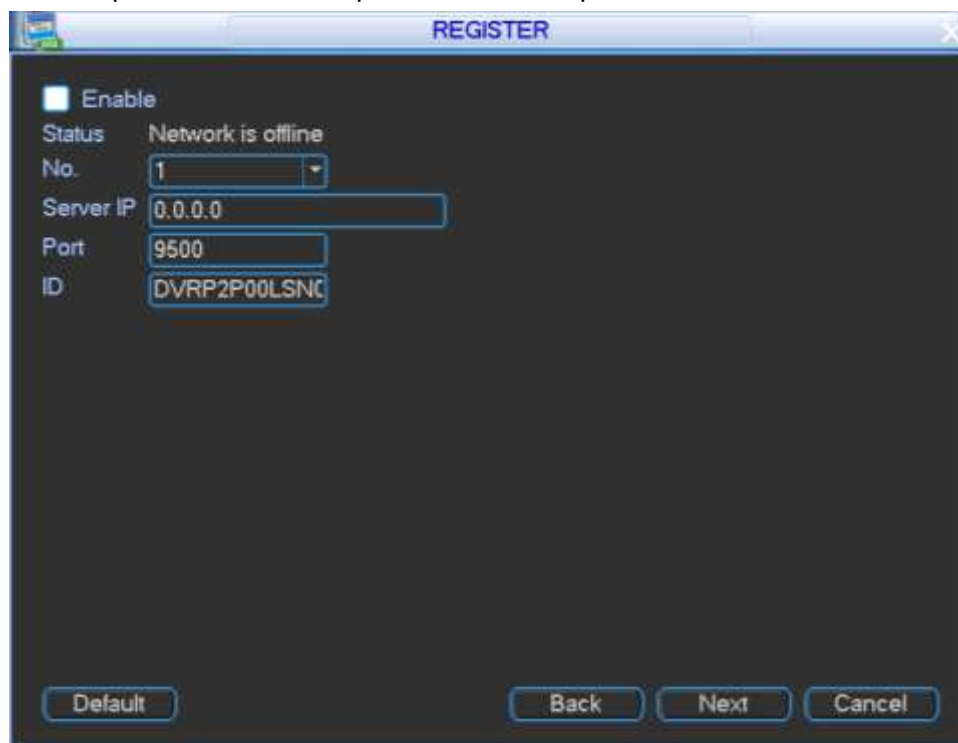

Figure 4-65
Step 1 From main menu->Setting->Network->Register, the setup interface is shown as in Figure 4-65.
Step 3 Now you can add device. Please do not input default port number such as the TCP port in the mapping port number. The device ID here shall be the same with the ID you input in Figure 4-65. Click Add button to complete the setup.